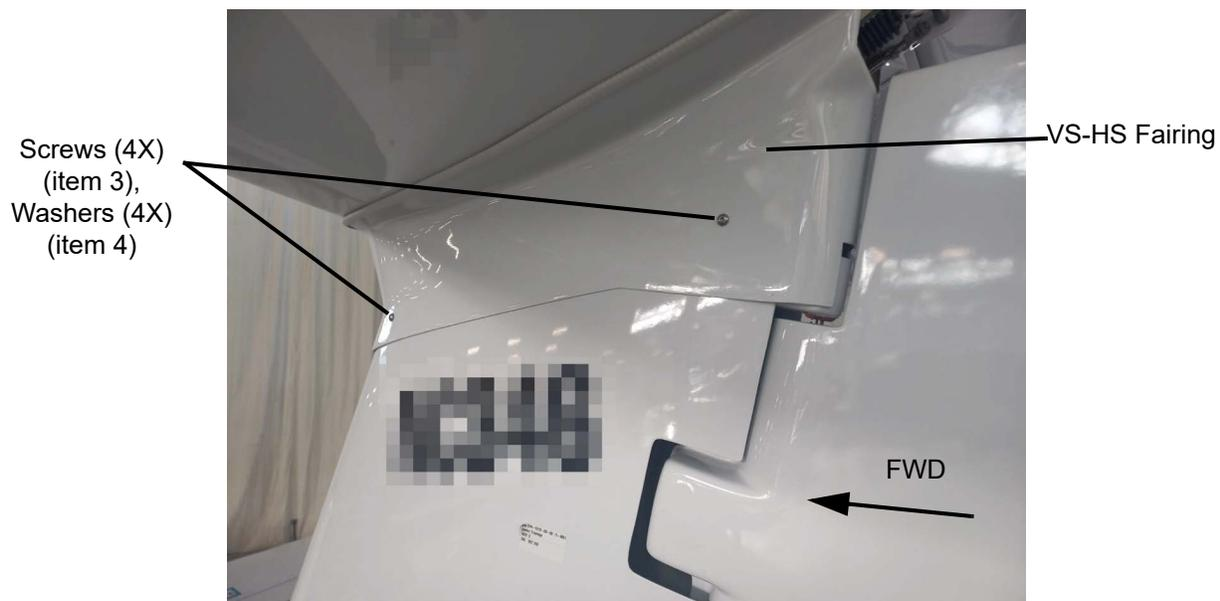

Figure 4. VS-HS fairing installation.
7. Put the VS-HS fairing in the installation position. Refer to Figure 4.
8. Install the 4 screws (item 3) and the 4 washers (item 4). Refer to Figure 4.